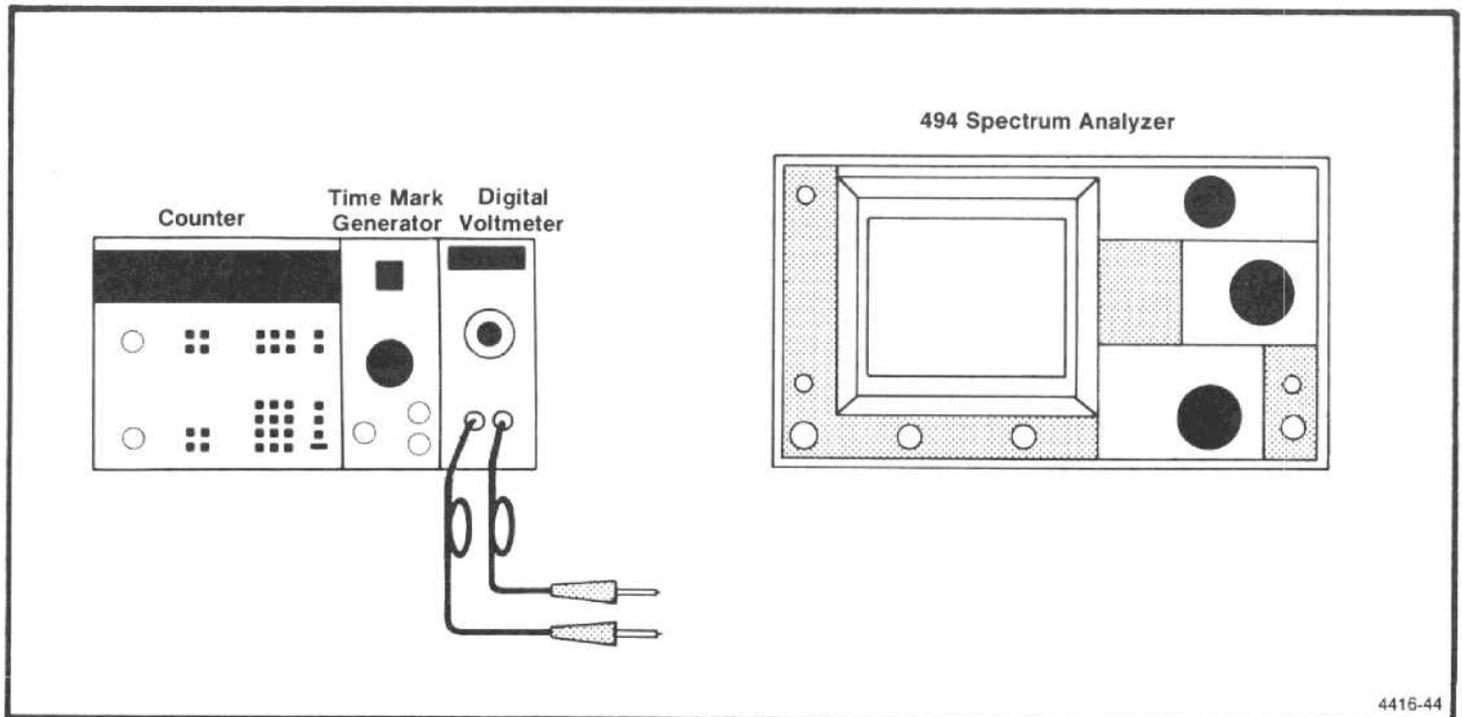

Figure 4-3. Test equipment setup for checking center frequency accuracy.
- a. Test equipment setup is shown in Figure 4-3. Apply the CAL OUT signal through 1 dB and 10 dB step attenuators to the RF INPUT.
(1) Equipment setup is shown in Figure 4-3
(2) Apply the output of the comb generator to the RF INPUT. Set the FREQUENCY to 500 MHz and the FREQ SPAN/DIV to 210 kHz, via the Data Entry keyboard. Activate AUTO RESOLN, 10 dB/DIV, and set REF LEVEL to +20 dBm
(3) Press COUNT→CF and change the RESOLUTION BANDWIDTH to 10 kHz.
(4) Note that the signal is within $\pm[(20\% \text{ of Span/Div or Resoln Bandwidth}) + (\text{N} \times 15 \text{ kHz})]$ or $\pm 57 \text{ kHz}$ (± 1.35 minor div) of the dot marker.
(5) Set the FREQUENCY to 1.0 GHz and RESOLUTION BANDWIDTH to 1 MHz.
(6) Press COUNT→CF and change the RESOLUTION BANDWIDTH to 10 kHz.
(7) Check — that the signal is within 57 kHz of the dot marker.
(8) Repeat the procedure to check accuracy at a center frequency of 1.5 GHz (the upper end of band 1).
(9) Using the above procedure and Table 4-2, check center frequency accuracy to 21 GHz for those span/div settings in which the 1st LO is not phase locked.